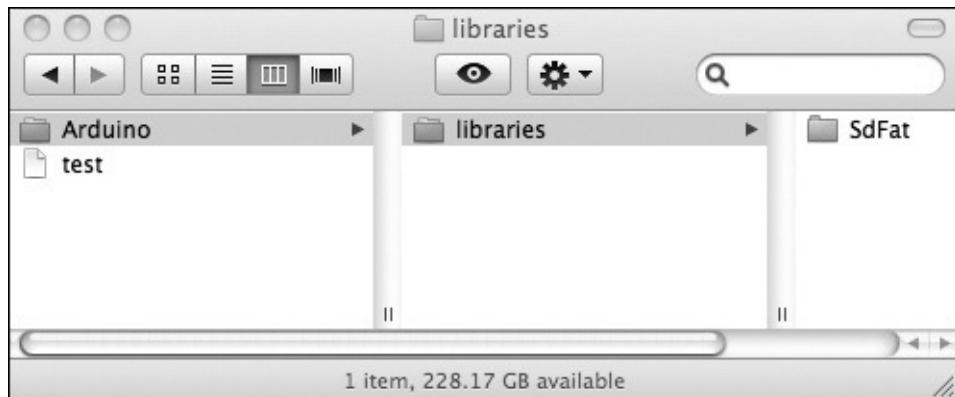

Figure 8-18. Completed library installation
3. Copy the *SdFat* folder from the window shown in Figure 8-17 to your *Arduino/libraries* folder, as shown in Figure 8-18.